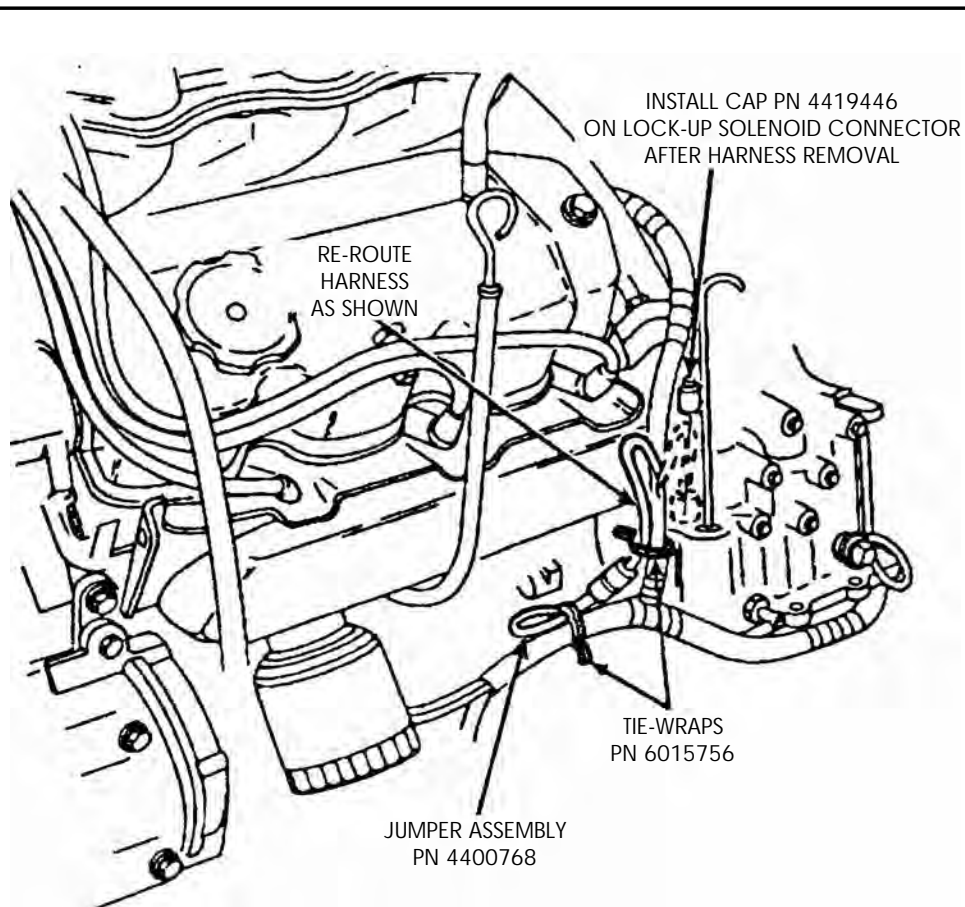

Figure 266
**CORRECTION:** There is a service package available from Chrysler under part number 4419447, to eliminate the converter clutch operation. This service package consists of a wire harness assembly, solenoid connector cap, two tie-wraps and an Authorized Modification Label. This service package should be installed as shown in Figure 266, or refer to Chrysler service bulletin number 18-03-88 addressing this concern.